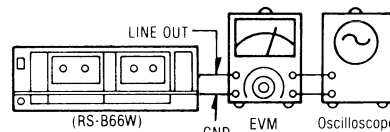

Fig. 17-1
1. Make the connection as in Fig. 17-1.